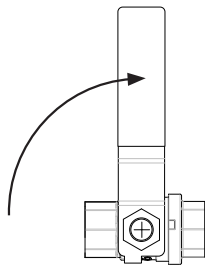

Figure 49: *Supply valve closed*
2. Located on the TIREMAAX controller, **turn** Supply valve to closed position (Figure 49).
2. **Locate** controller on the trailer. **Ensure** supply valve is in closed position. Refer to Figure 49 on page 47.